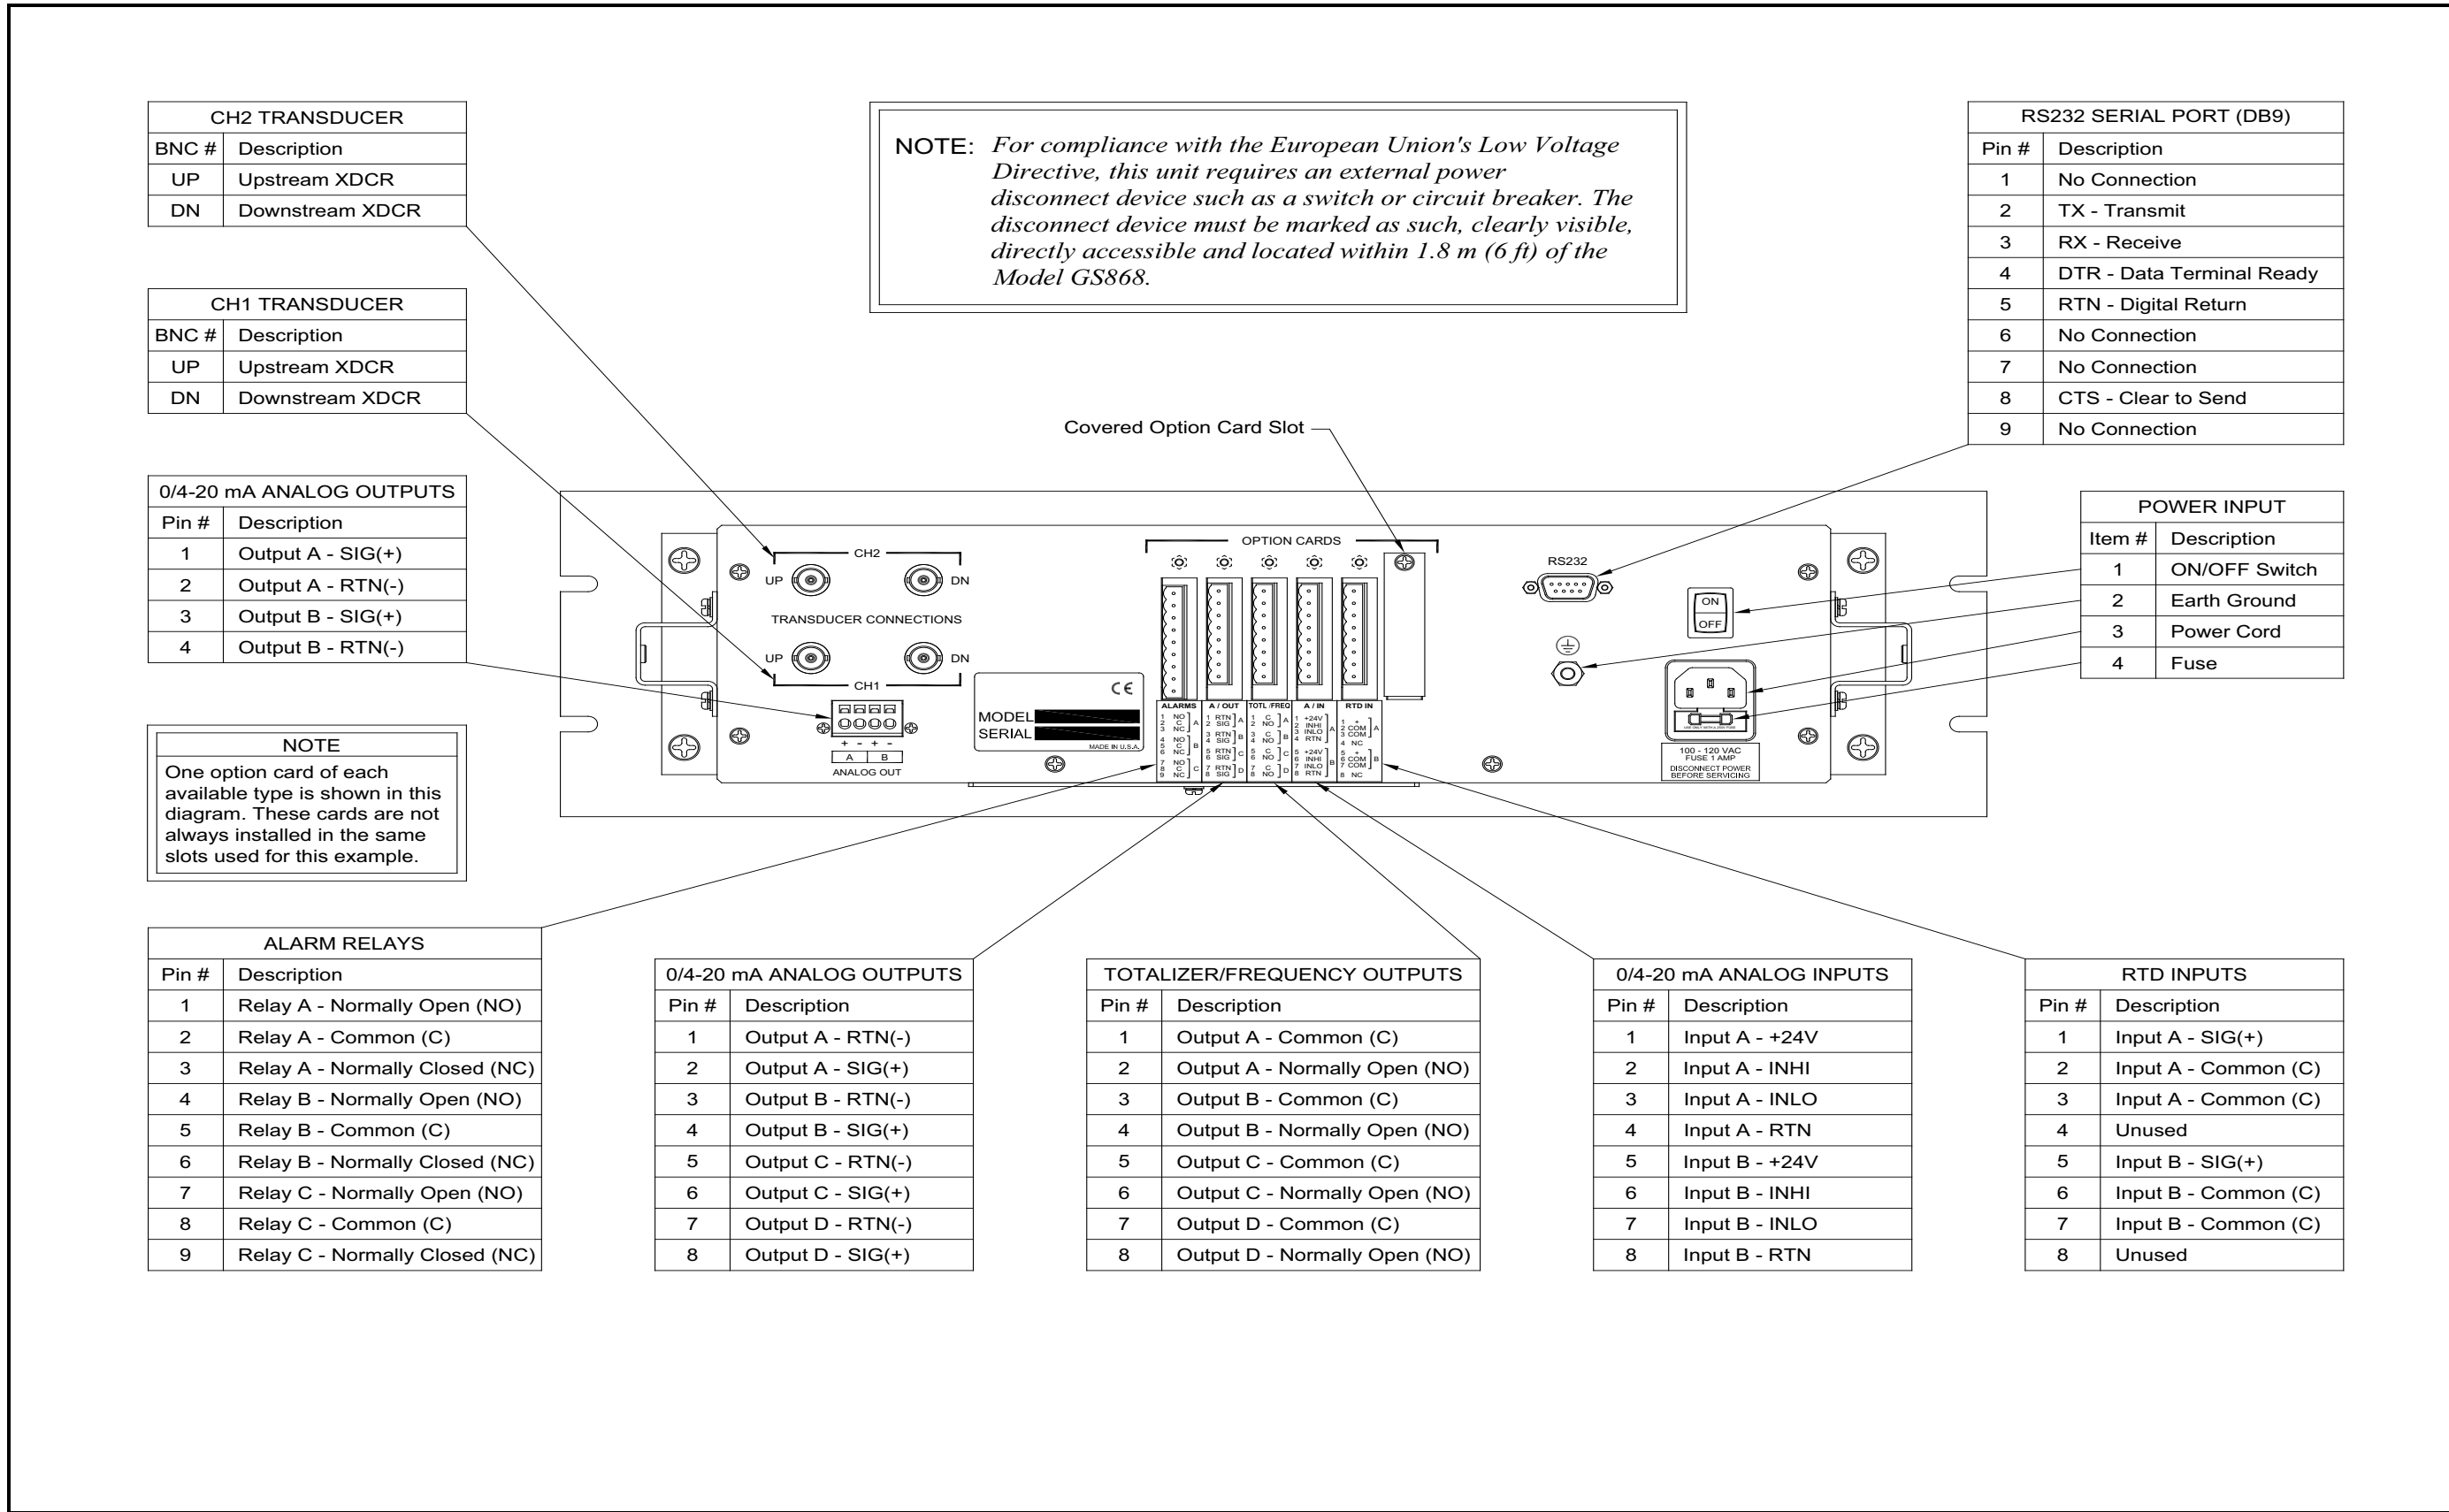

Figure 16: Model GS868 Rack Mount Enclosure - Wiring Diagram
The rack mount Model GS868 requires exactly the same electrical connections as the standard version. However, the locations and type of connectors used for the various components are different. Refer to Figure 16 on page 52 and complete the following steps:
- a. Purchase or prepare a suitable serial cable. This cable should have a standard female DB9 connector, wired as shown in Figure 16 on page 52, for connection to the rear panel of the Model GS868. The other end should be as required for the external device.
5. Wire any installed *option cards* using the same procedures described in Chapter 1, *Installation*, of this manual and the pin # assignments shown in Figure 16 on page 52.